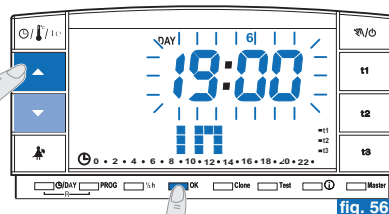

fig. 56
- The display will show (blinking) the hour in which the countdown should end (return home). Using the ▲▼ keys, set the hour confirm with **OK** (fig. 56 on the next page).
- After data has been entered and you have confirmed with **OK** (example in fig. 56), **two different messages** (depending on the data entered) can be shown on the display:
- Press **OK** (example in fig. 56) and the chronothermostat will begin a countdown and the program will keep the **t3** Absence temperature set (factory setting 5°C in "Winter" and 33°C in "Summer", both adjustable as per paragraph 5.6) until the end of the programmed hour. The display will show the number of hours remaining until the end of the program, plus the message **HOLIDAY** (example in fig. 57).
- Press **OK** (example in fig. 56) and the chronothermostat will return to the program that was operating before data entry in program P 04, as it awaits start-up of this latter program.